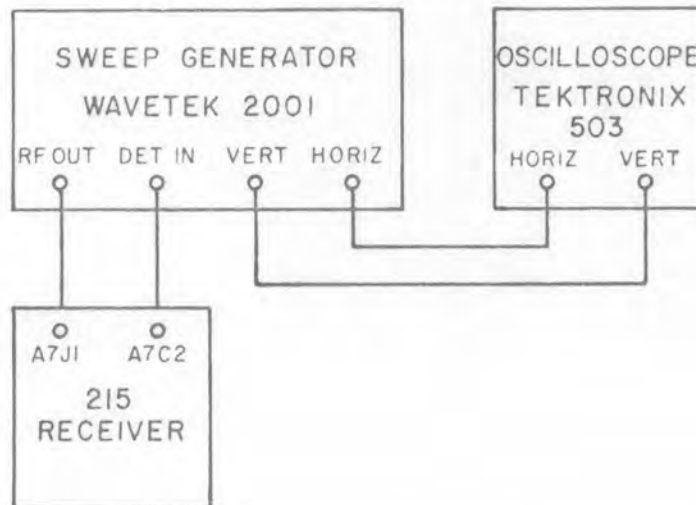

Figure 4-14. Equipment Connections, RF Monitor Alignment
- (1) Connect the equipment as shown in Figure 4-14.
- (1) Connect the equipment as shown in Figure 4-14 except connect the sweep generator RF output to A4A8 pin 21 and the detector input to A4C12.
- (2) Set the IF BANDWIDTH switch to the 1 MHz position, set the reception mode switch to AM/MAN and the MAN GAIN control maximum CW.
- (3) Adjust the sweep generator and oscilloscope to display an approximate 10 MHz wide response centered about 21.4 MHz
- (4) Adjust A4A8C13 for a symmetrical response centered about the 21.4 MHz marker. The 3 dB bandwidth should be approximately 7 MHz.
- (5) Adjust the sweep generator to produce a CW signal at 21.4 MHz and a level of -50 dBm.
- (6) Adjust A4A8R20 for a level of 1.5 V dc at A4C12.
- (7) Disconnect the test equipment.